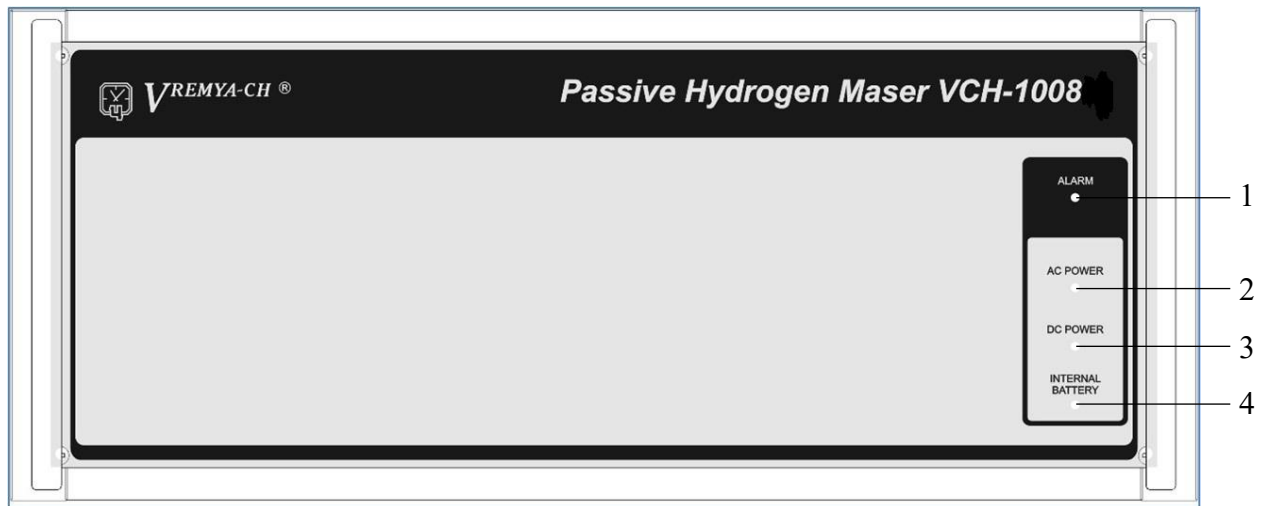
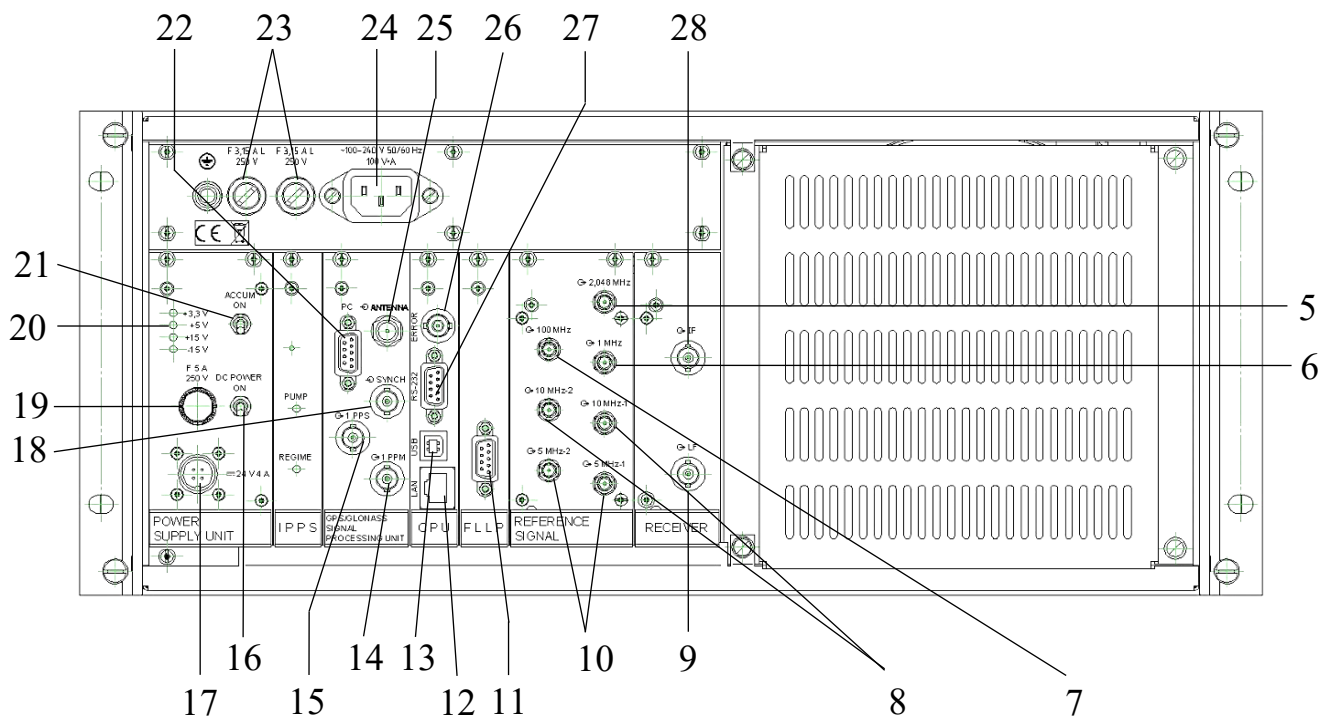

Fig. 2.1
Fig. 2.2
2.1.2.1 The descriptions of switches, connectors and indicators of the device are given in the Table 2.1. Their positions are shown in Fig. 2.1 and Fig. 2.2.